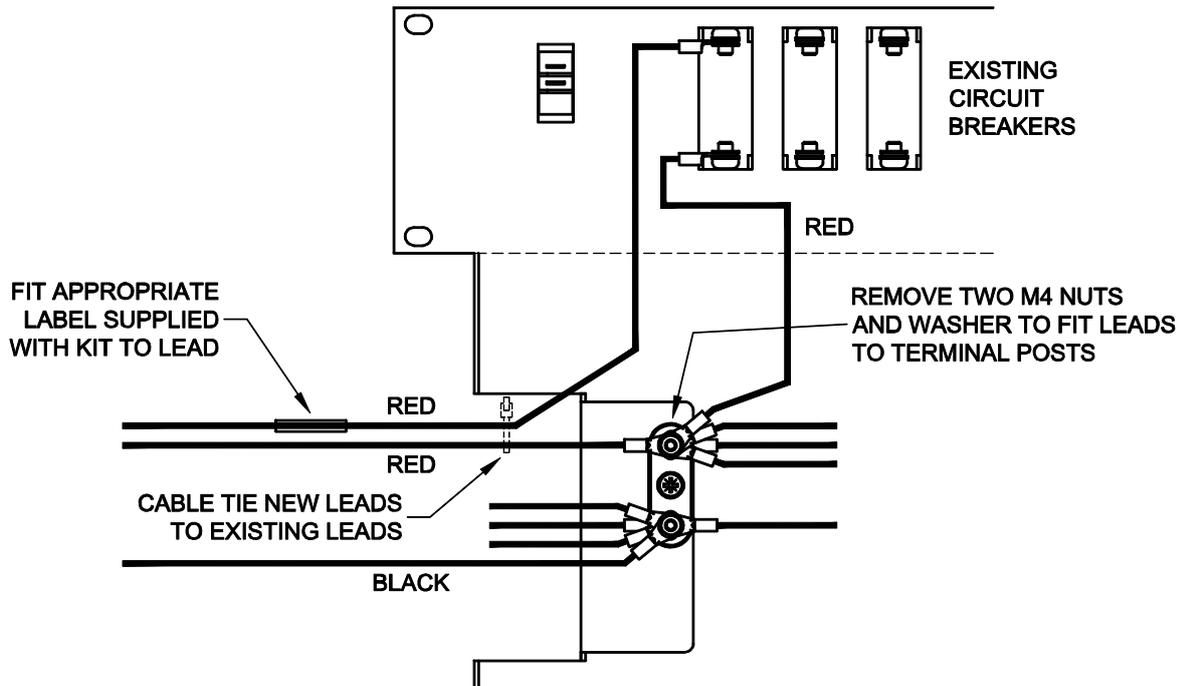

Figure 4 – Attachment and labelling of additional Circuit Breaker leads
7. Attach the newly-fitted Circuit Breaker leads and additional black lead to the PSU2412 as shown in Figure 4 below. Label the red lead as appropriate (pre-printed labels for EWIS racks 3 and 4 are supplied with the kit, alternatively use the blank label for other applications).